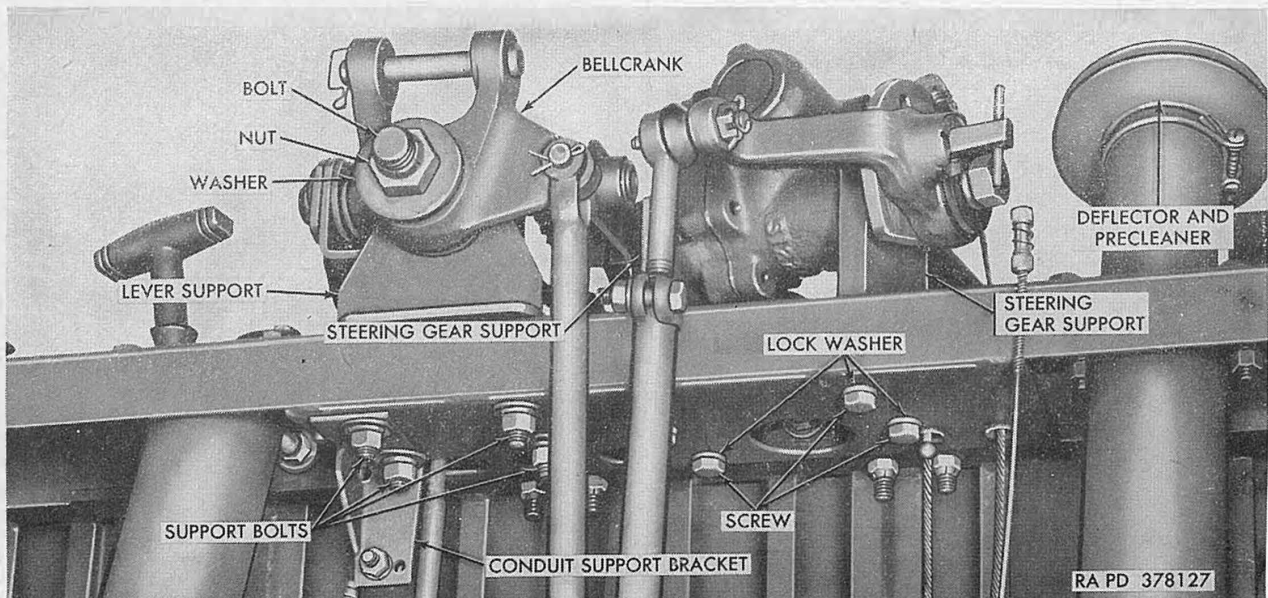

Figure 56. Disconnect points on rear of bed support front cross member.
**78. Rain Deflector and Precleaner (fig. 56)**
- (1) Unscrew nut (fig. 56) securing tow bar bellcrank to brake and shift lever support and remove washer.
- (4) Remove four hex nuts and lockwashers from bolts (fig. 56) securing brake and shift lever support to bed support front crossmember and remove support assembly from vehicle. The two right bolts also secure brake conduit support bracket to rear of crossmember. Three attaching bolts may be removed but lower right bolt cannot be removed until support assembly is partially disassembled. Remove bolt used to secure tow bar bellcrank.
- (1) Slide  $\frac{3}{4}$ -16 x  $5\frac{1}{2}$  bolt (fig. 56) for bellcrank through brake and shift lever support from the top. Position assem-